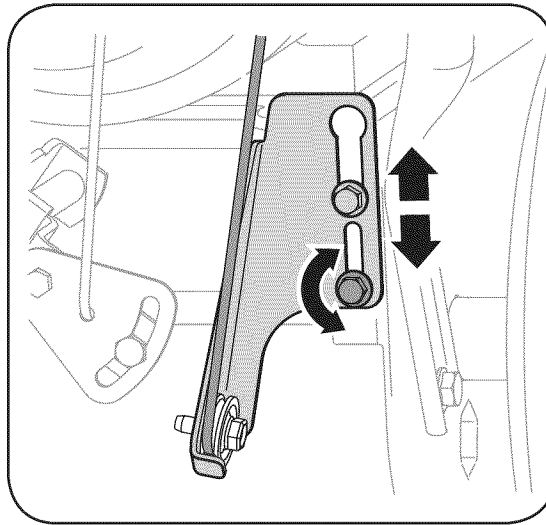

Figure 15
4. If adjustment is necessary, loosen the lower hex nut on the drive cable index bracket and pivot the bracket upward or downward as necessary. Refer to Figure 15. Tighten the lower hex nut to secure the bracket when correct adjustment is reached.